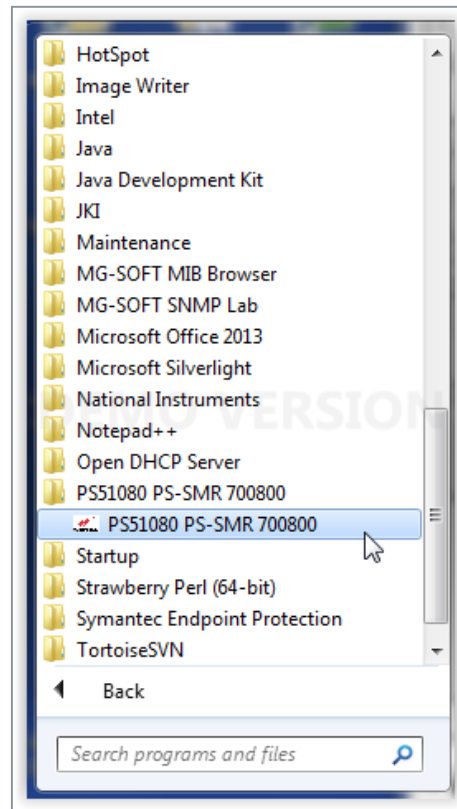
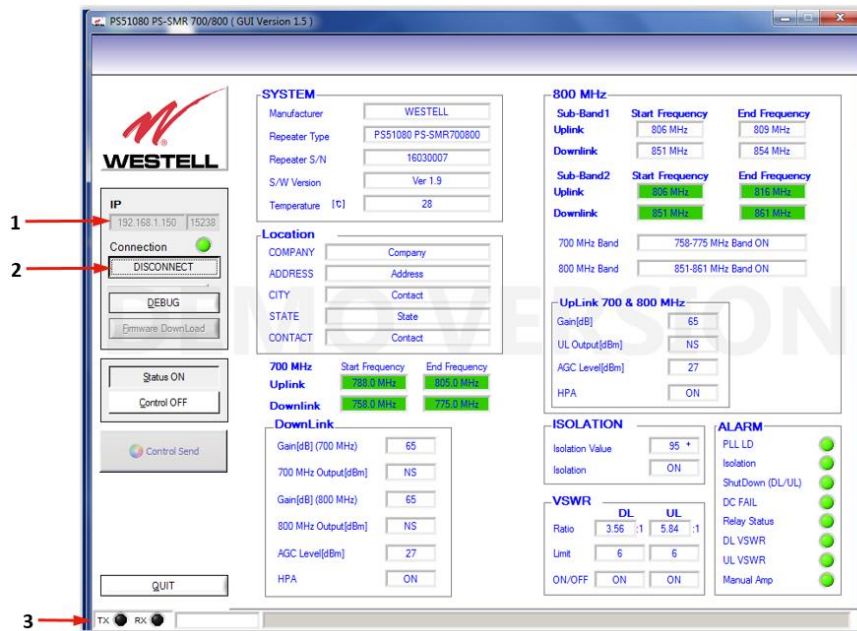

Figure 6-2: Run the Software
Figure 6-3: Status Page (after clicking connect)
3. Navigate to the location where the **PS51080.exe** software file is saved, Figure 6-2, and double-click to run it. The Status page, Figure 6-3, displays.